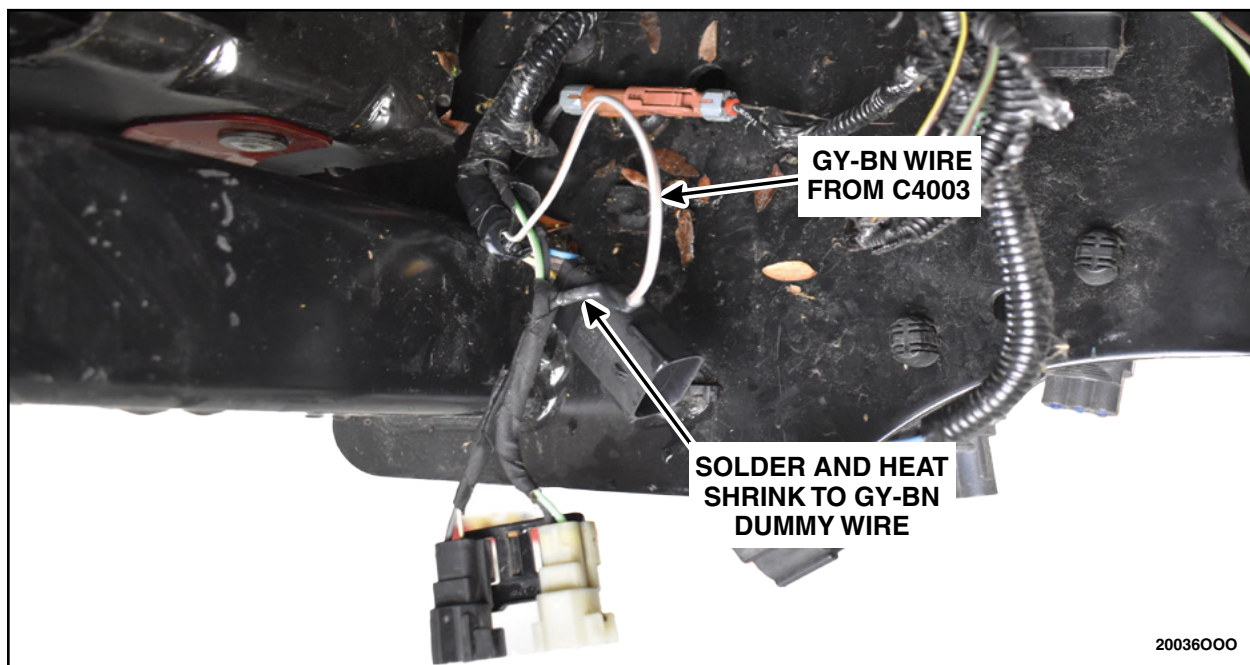

FIGURE 72
96. Apply heat shrink tubing to the GY-BN wire from C4003. Solder the GY-BN wire from C4003 to the GY-BN wire of the male end Grey connector. See Figure 72.